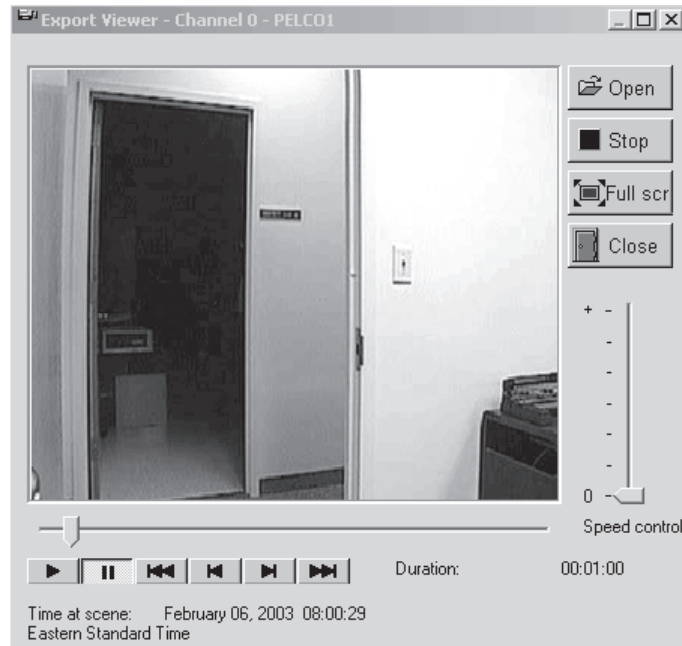

Figure 55. Video Playback
4. Click Open. The video plays automatically. Refer to Figure 55.